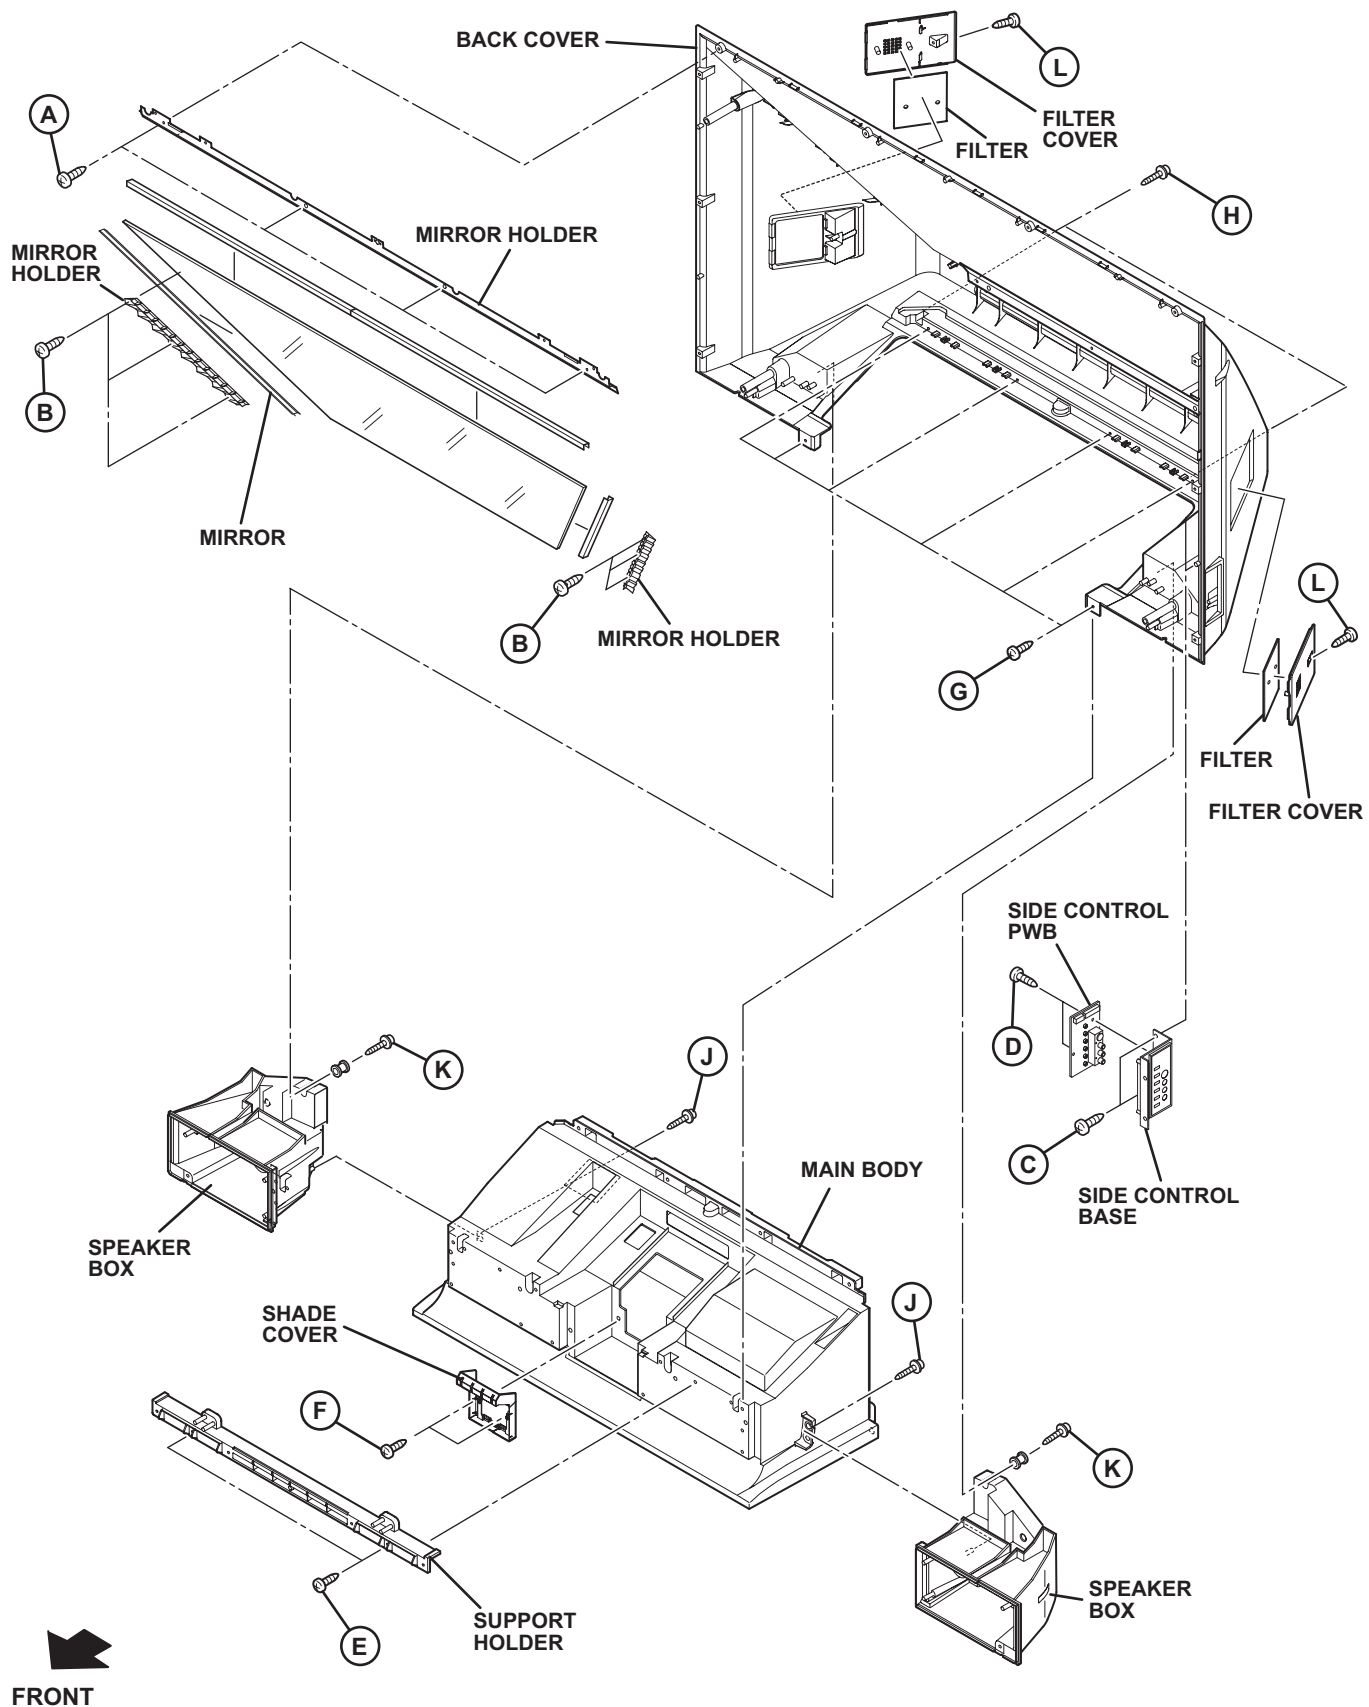

Fig.2
3.1.1.8 REMOVING THE MIRROR (Fig.2)
3.1.1.9 REMOVING THE SIDE CONTROL PWB (Fig.2)
3.1.1.10 REMOVING THE SUPPORT HOLDER (Fig.2)
- (1) Remove the 2 screws **[E]**.
- (2) Remove the SUPPORT HOLDER.
3.1.1.11 REMOVING THE SHADE COVER (Fig.2)
- (1) Remove the 2 screws **[F]**.
- (2) Remove the SHADE COVER.
3.1.1.12 REMOVING THE BACK COVER (Fig.2)
3.1.1.13 REMOVING THE SPEAKER BOX (Fig.2)
3.1.1.14 REMOVING THE FILTER (Fig.2)